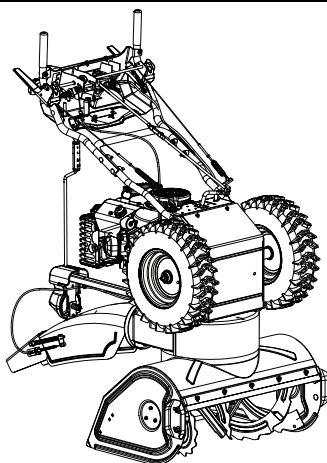

Figure 12
See Figure 12.
1. **Remove Bottom Cover** Place unit in service position. See Figure 12.